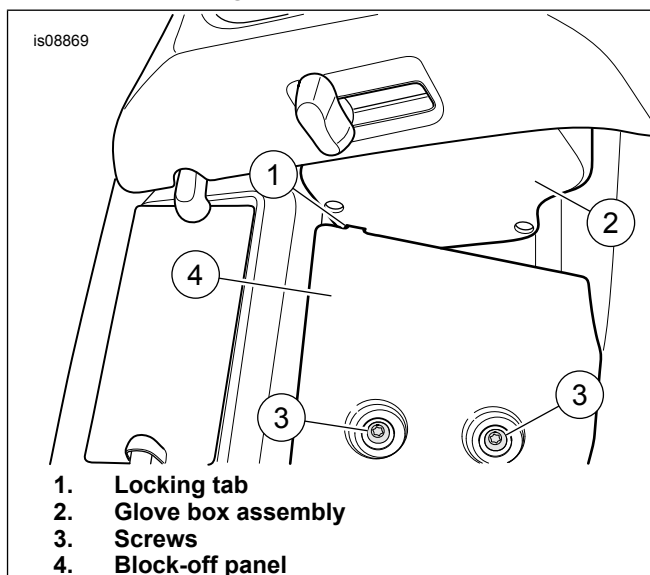

Figure 2. Locking Tab and Block-off Panel
2. See Figure 2. From the front, remove the screws (3), block-off panel (4) and glove box (2). Disconnect the vent door linkage.